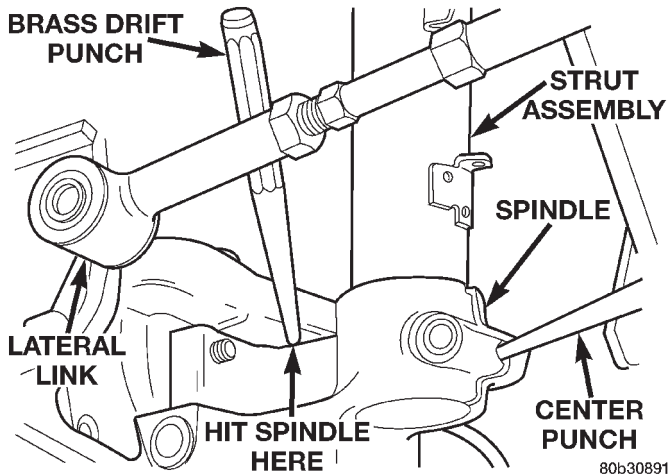

**Fig. 9 Removing Spindle From Strut Assembly**
(15) Using a hammer and a brass drift punch, tap on top surface of spindle driving it down and off the end of the strut assembly (Fig. 9).